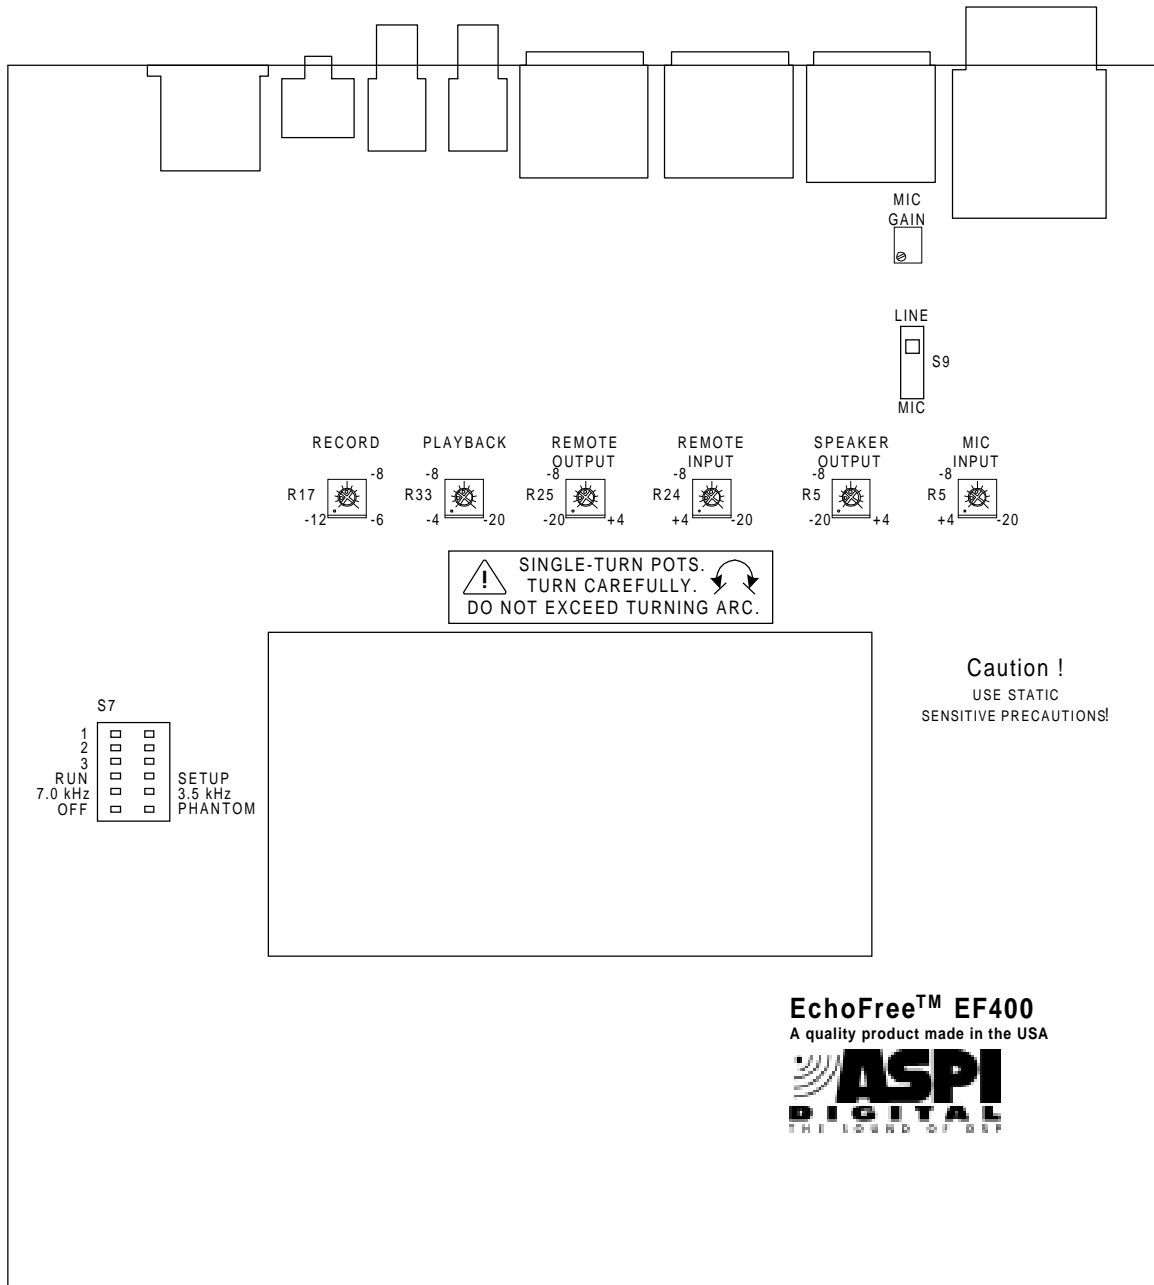

Figure 3. EF400 Circuit Board Layout
The EF400 works with audio equipment requiring signal levels in the range of +4dBu to -20dBu. This range covers professional-audio levels (+4dBu) and consumer-equipment levels (-8dBu or -10dBV). It also allows a further 12dB signal attenuation to -20dBu if required. The most commonly used levels (+4, -8, and -20dBu) are labeled on the trimpots for MIC INPUT, SPEAKER OUTPUT, REMOTE INPUT, and REMOTE OUTPUT. Refer to Figure 3 on page 10 for additional information.
6. Slide the top cover back to expose the line of trimpots. These trimpots are lined up with the appropriate backpanel connector and are labeled. (Refer to Figure 3 on page 10.)